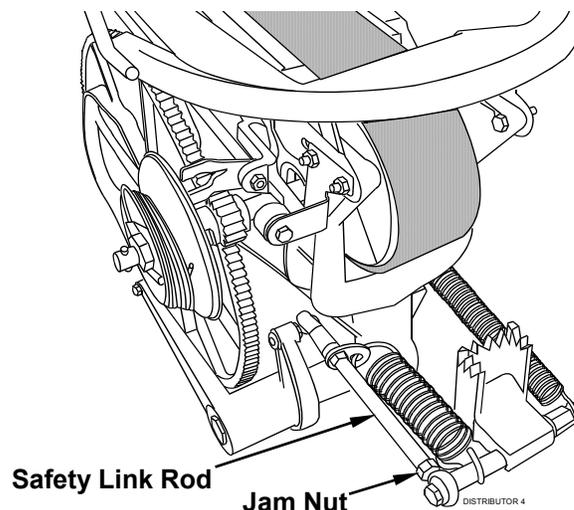

Figure 2-10
3. The distributor should be in line with the #1 and #5 bin positions. To adjust, loosen the jam nut on the hoop weldment end of the safety link rod (see Figure 2-10) and rotate the safety link rod to either increase or decrease the length of the rod to obtain the correct alignment. Tighten the jam nut.